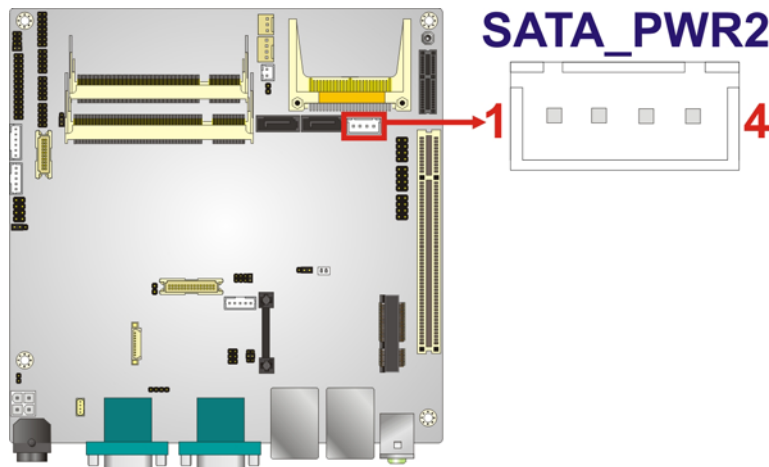

Figure 3-20: SATA Power Connector Locations
- CN Location:** See **Figure 3-20**